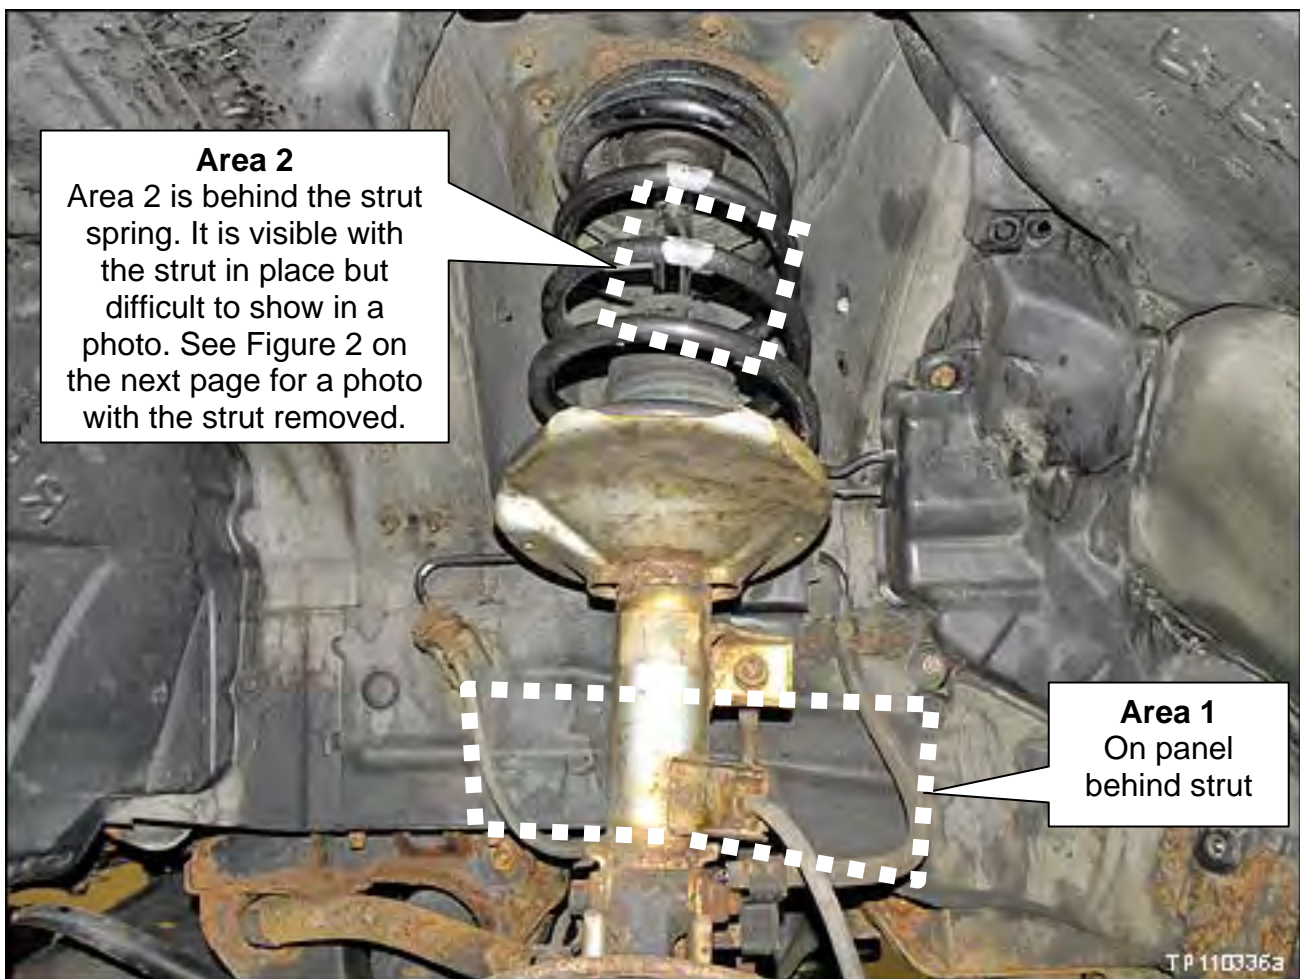

Figure 1
3. Inspect for corrosion on the driver side in the strut housing **Area 1** and wheel house **Area 2** (see Figures 1 through 4).